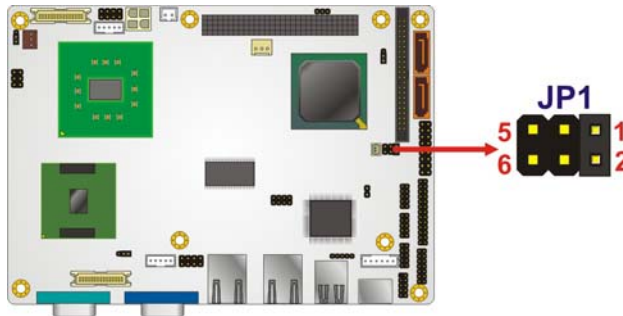

Figure 4-7: COM 2 Function Select Jumper Location
- Jumper Location:** See **Figure 4-7**
The COM 2 Function Select jumper location is shown in **Figure 4-7**.